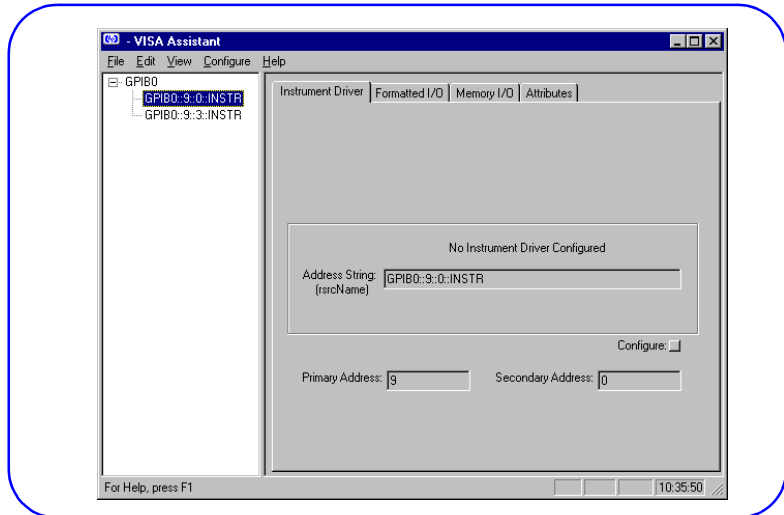

Figure 32. VISA Assistant Main Menu
- 2 To display the VISA Assistant Main Menu, click *Start|Programs|HP I/O Libraries|VISA Assistant* for a display similar to that in Figure 32. (For this example, we will assume only the HP E1406A Command Module and HP E1411B DVM are installed in the mainframe.)